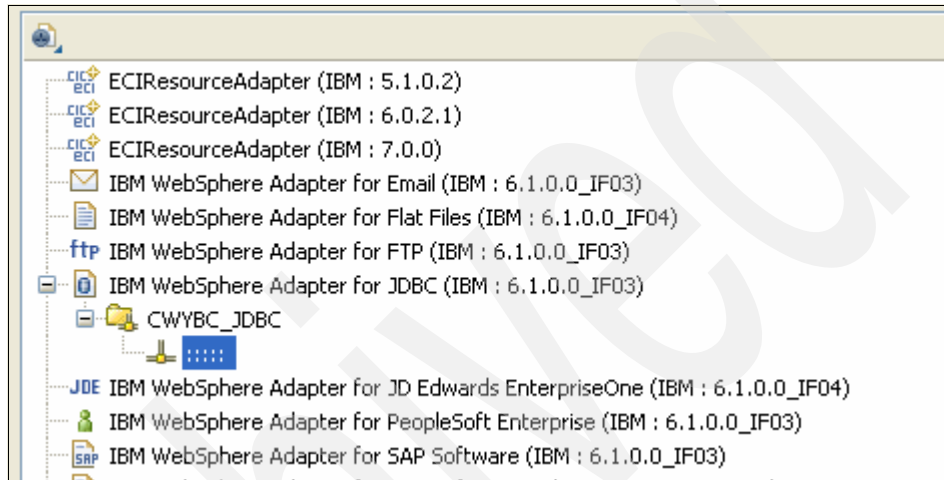

Figure 5-5 Connectivity icon says the adapter has been configured for this workspace
- c. This time, however, you find a connectivity icon under CWYBC\_JDBC adapter as shown in Figure 5-5. This icon implies that you have already configured a JDBC adapter for this workspace.